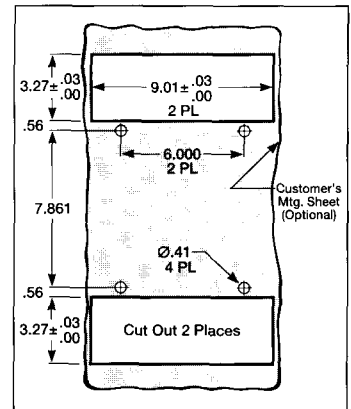

Figure 2
- C. If other mounting means are to be used, provide the cutouts and drilling required to mount the adapter blocks as shown in Figure 2.